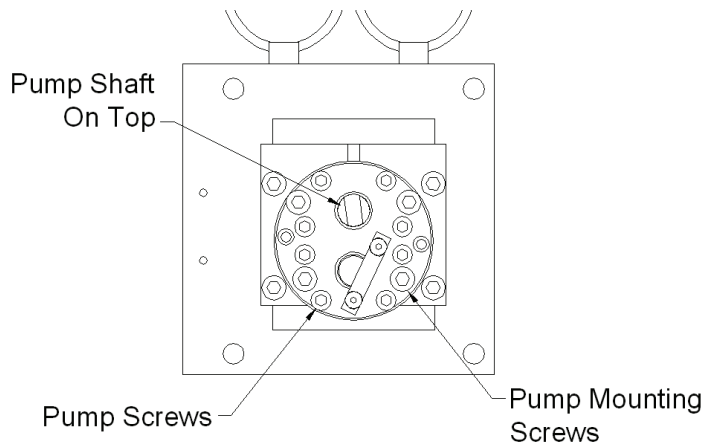

Figure 4.M.8.7 Flow Match Valve Face
3. Align the flow match valve to the manifold as shown in Figure 4.M.8.4. The gauges are on the top side along with the corner cutouts of the flow match valve. Apply blue Loctite® on the flow match screws and install the 4 lock washers. Torque the 4 screws in place to 100 lb-in.
4. Align the pump to the flow match valve as shown Figure 4.M.8.7. Note the location of the pump driven shaft. Apply blue Loctite® on the pump screws and install the four lock washers. Torque the screws in place to 100 lb·in.